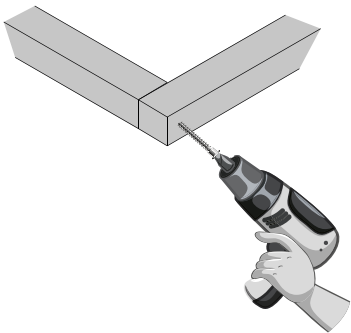

Figure 1
- 1) Set the wood base frame together with screws (see figure 1).